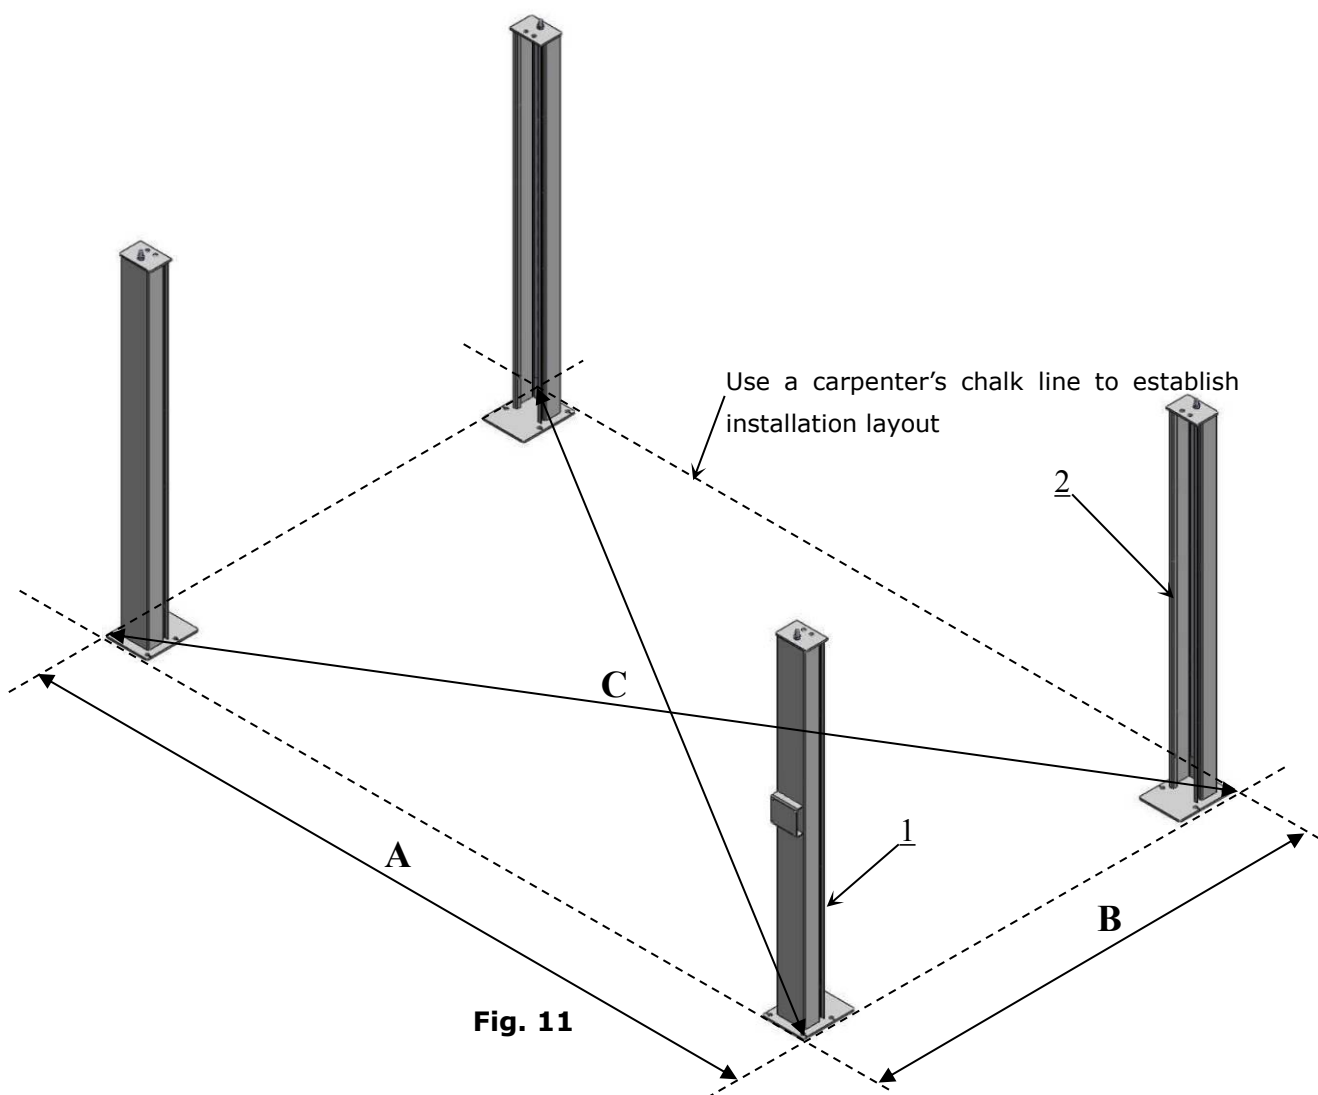

Fig. 11
B. Use a carpenter's chalk line to establish installation layout as per Table 1. Make sure the size is right and base is flat (see Fig. 11).